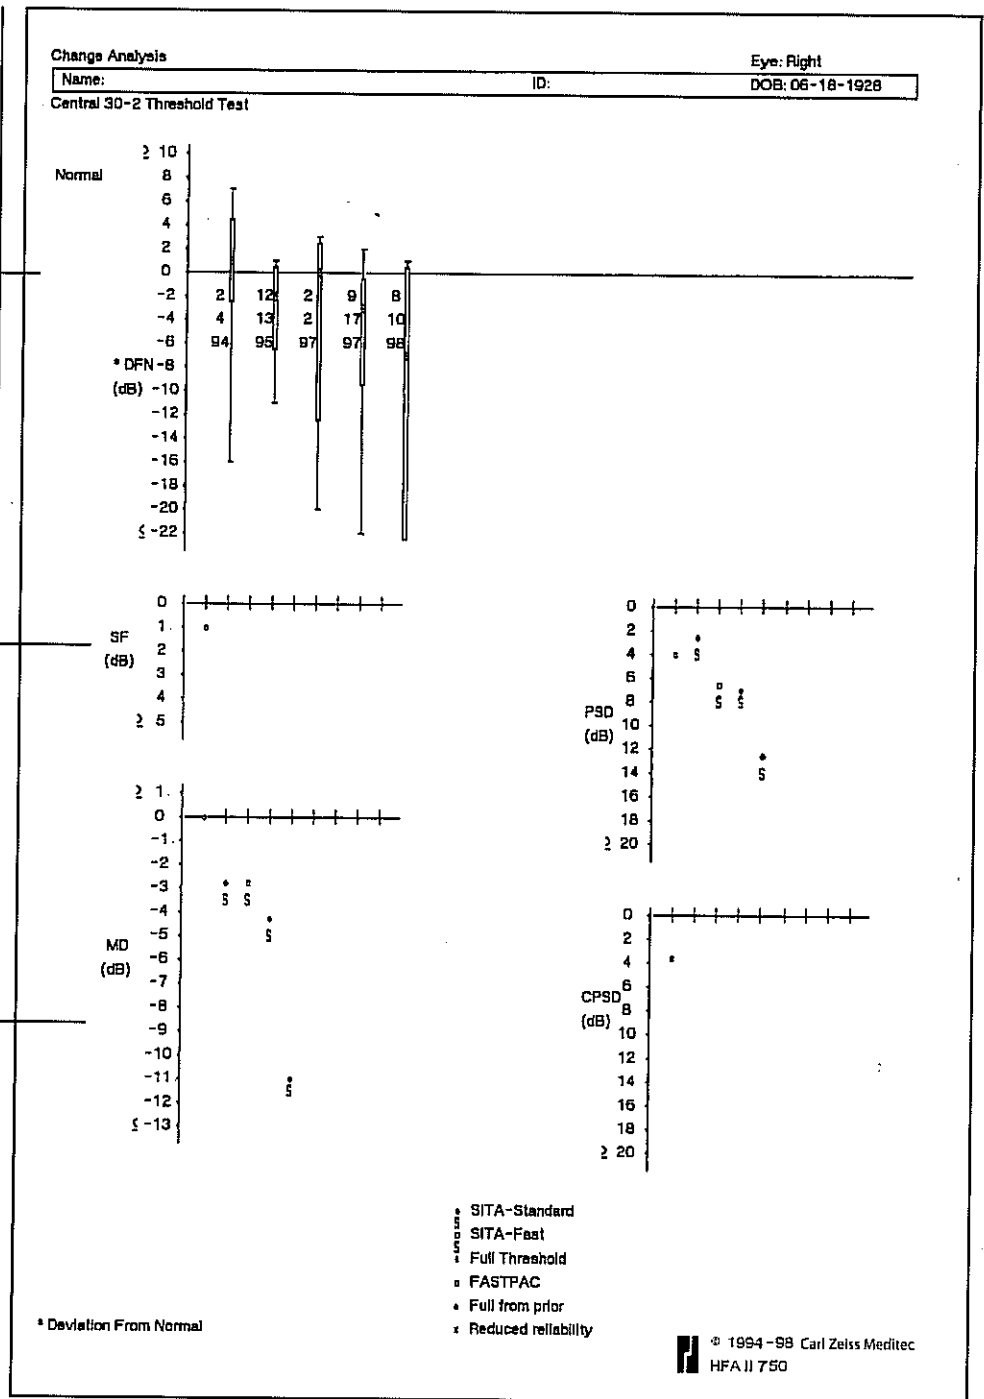

Figure 7.6: A Mixed Change Analysis Printout with SITA Tests Included
*Note: For the Change Analysis printout, you can mix tests done using the FastPac strategy with those using Full Threshold. Because some of the STATPAC limits are slightly different depending on whether FastPac was used or not, the significance lines for plotting PSD, SF, and CPSD will not be on the printout if you are analyzing a series of FastPac and non-FastPac tests. Significance lines, however, will be displayed for Mean Deviation. When SITA tests are included, the normal box plot is not displayed for comparison (see Figure 7.6).*